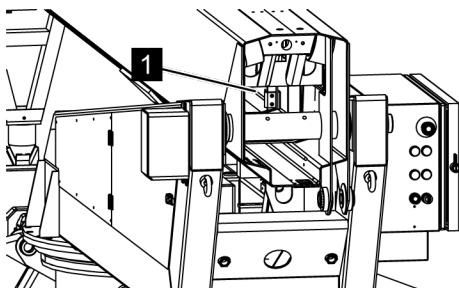

Fig. 125: Clean the inside
3. ➤ Remove accumulations from the inside of the telescopic arm (Fig. 125/1) by hand or with compressed air.